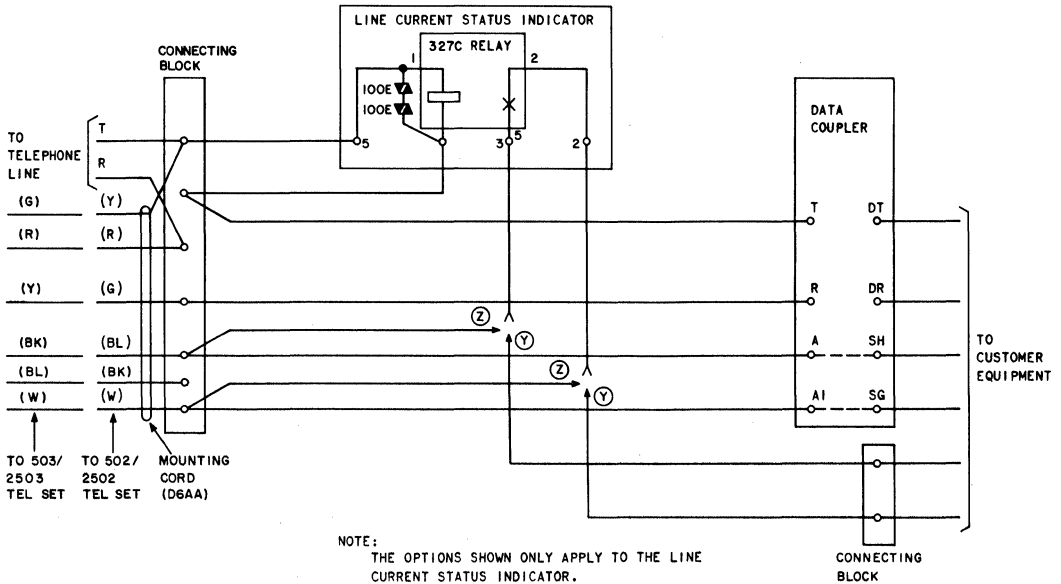

Fig. 13—Line Current Status Indicator Connection Diagram
3.13 The LCSI (Fig. 13) must be made locally. It consists of a dry reed relay and two varistors on a 74B-49 connecting block measuring 2.75 inches wide, 4 inches long, and 1.6 inches high. The relay is in series with the coupler and gives a contact closure at the customer interface or the input to the coupler SH driver circuit when at least 20 mA of line current is flowing through the relay and coupler. The two varistors are used to provide a low-impedance transmission path to the coupler.
- (4) Place relay on baseplate, topside down.
- (5) Remove and discard the lower screws from terminal strip eyelets in positions 2, 3, 4, and 5.
- (6) Wire the unit in accordance with Fig. 13.